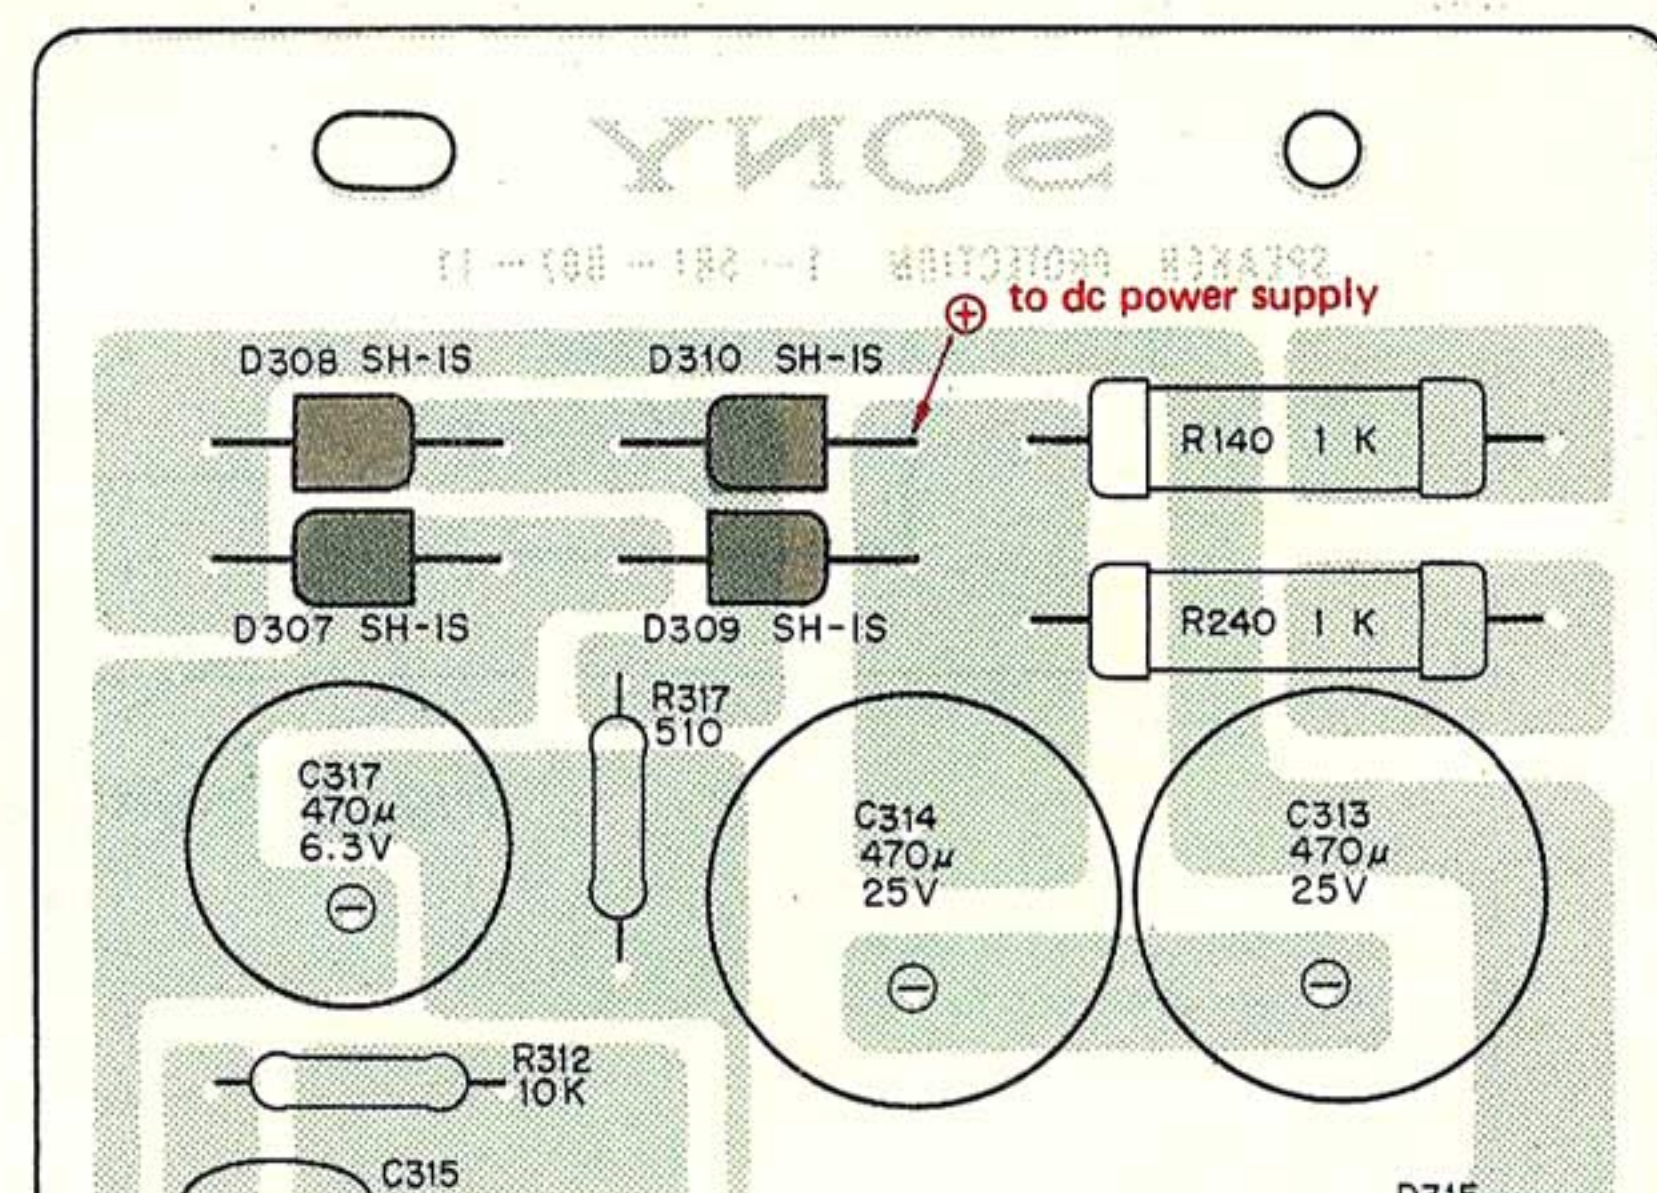

Fig. 3-2. Connection point of dc power supply.
2. Connect the dc variable power supply's output to the diodes mounted on the speaker protection board. Connect the positive output of the power supply to the connection point of D310 and D309 and the negative output to the ground as shown in Fig. 3-2.